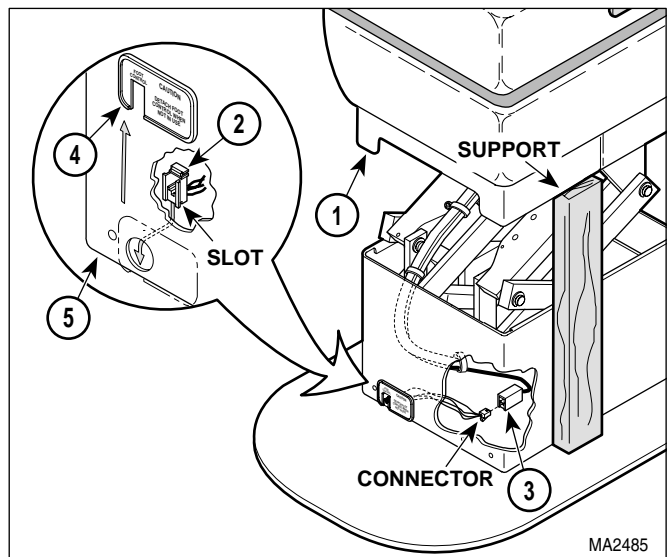

Figure 4-9. Foot Control Plug-In Port Removal / Installation
- (1) Raise outer shroud (1, Figure 4-9) and prop it up with a support.
- (2) Disconnect connector of foot control port (2) from modular coupler (3).